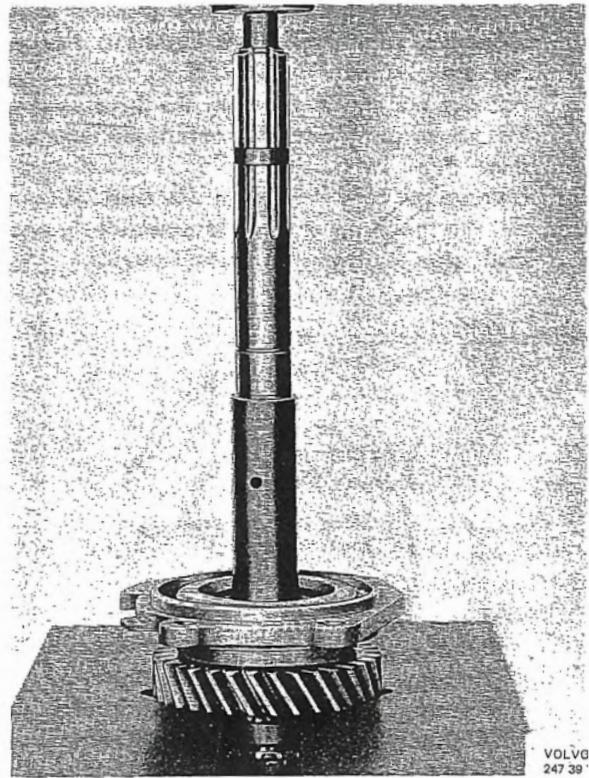

Fig. 4-15. Disassembling mainshaft
1. Remove the circlip and press off the rotor for the overdrive oil pump. Remove the circlip for the mainshaft rear bearing. Slide the engaging sleeve for 1st speed and 2nd speed forwards. Place the shaft in a press and a support under the 1st speed gear wheel. Press out the shaft as shown in Fig. 4-15.